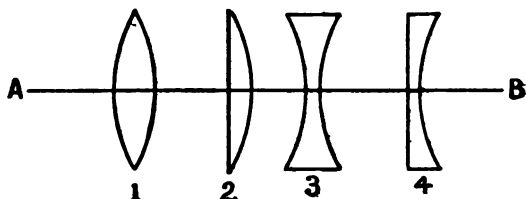

Fig. 212.
The most common forms of lenses are (1) double convex, (2) plano-convex, (3) double concave, and (4) plano-concave. These are sufficiently described by section in Fig. 212. The line AB is the *principal axis* of each lens shown.